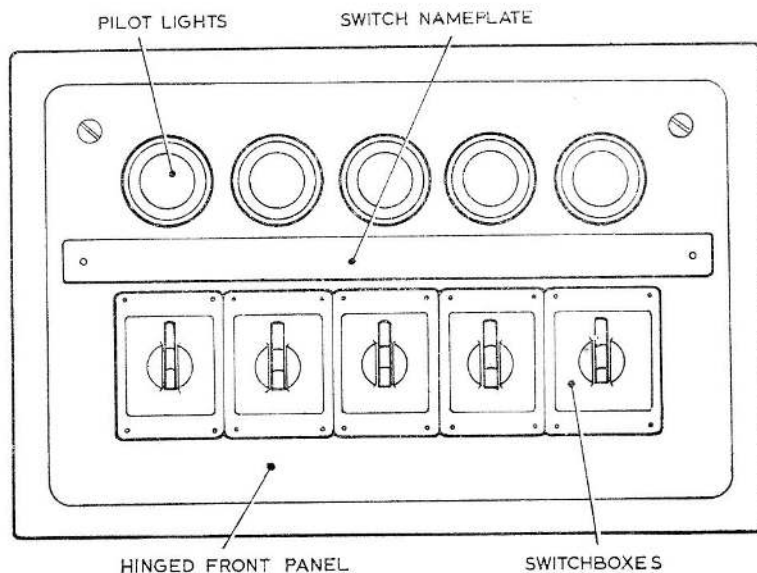

Fig. 2. Front view of control box
4. A front view of the control box is given in fig. 2. It consists of a 20 gauge aluminium box with 5 double pole on-off switches and 5 warning lamps, mounted on a hinged front panel. Each switch controls one heating element of the hot-cupboard, the associated pilot lamp indicating that the element is switched on.